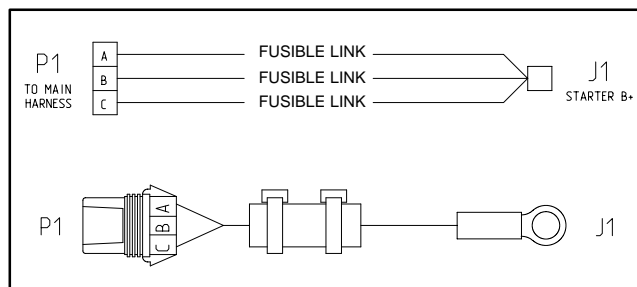

Figure 44
3. For fusible link harness (Fig. 44):
- B. Use a multimeter to make sure that continuity exists between the fusible link terminal on the starter B+ terminal (terminal J1 on fusible link harness) and each of the terminals in the link harness connector P1 (Fig. 44). If any of the fusible links are open, replace the fusible link harness.